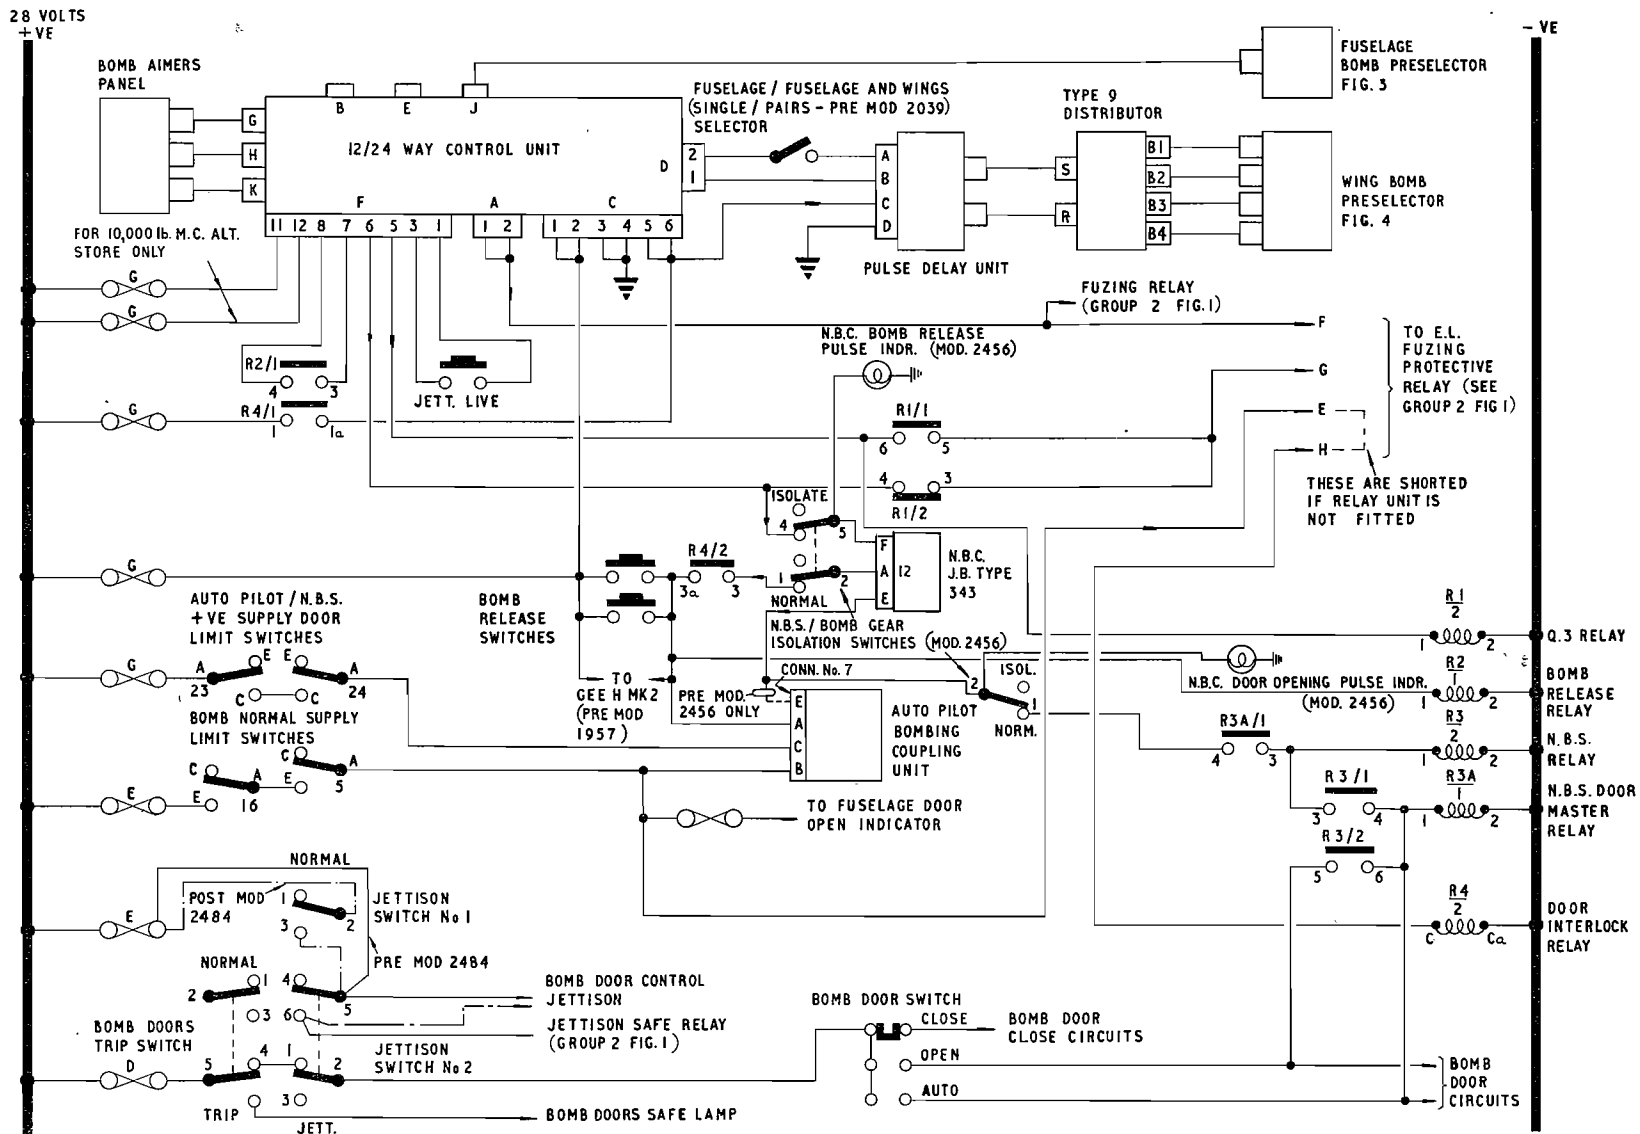

Fig. 2. Bomb release control—normal (pre-Mod 2612, 2645, 2646 or 2725)
### Normal release control (fig. 2 and 2A)
*Post Mod. 2612, 2645, 2646 or 2725 the door interlock relay R4 becomes door interlock relay No. 1. An additional relay (No. 2) is added for the alternative stores (Group 3) fig. 2.*
*and connects the normal supply to the bomb release relay R2 (fig. 2). The reason why the N.B.S. supply is not now taken through the door inter-lock relay is that the supply is already inter-locked by the bomb door inter-lock relay contact R4/1.*